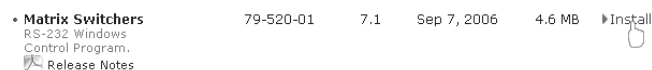

Figure 4-7 — Software installation
3. Scroll to the desired program and click Install (figure 4-7).